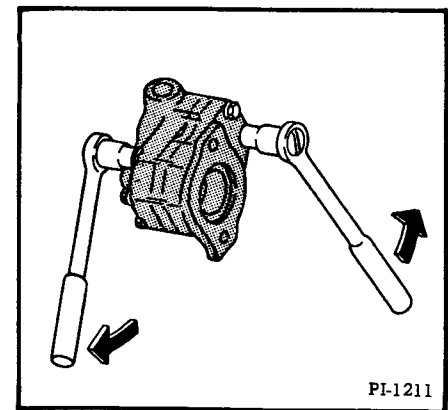

Fig. 28 Removing Pump Body Screws
(4) Remove all the screws from the pump body (Fig. 28). Some of them enter from the shaft end and some from the cover end.